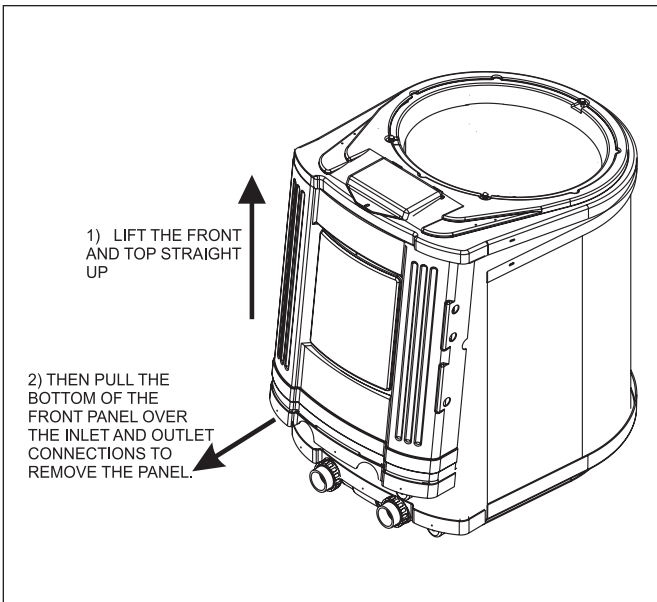

Figure 1. Removal of Heat Pump Front Panel
1. Remove the six (6) screws from around the perimeter of the top panel. These screws hold the top to the frame of the evaporator coil.
2. Remove the three (3) screws that hold the front panel of the heat pump to the base.
3. Lift the front panel enough so that the bottom of the panel clears the inlet and outlet connections on the heat pump. The front of the top panel will be lifted along with the front panel. See Figure 1. Remove the front panel and move it as far to the right of the heat pump as the flexible conduit will allow.